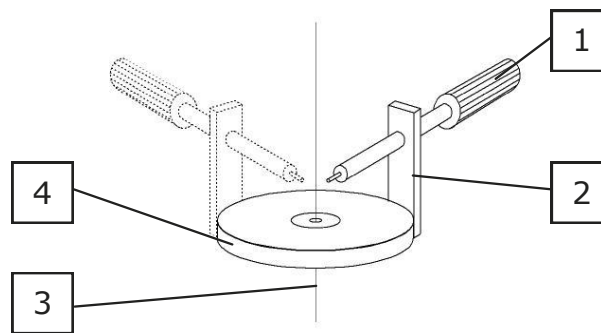

Figure 4
- Rotate the centering device plate 90° and check that the screw tip still touches the wire (see *Figure 4*.) Adjust the plate position if necessary.